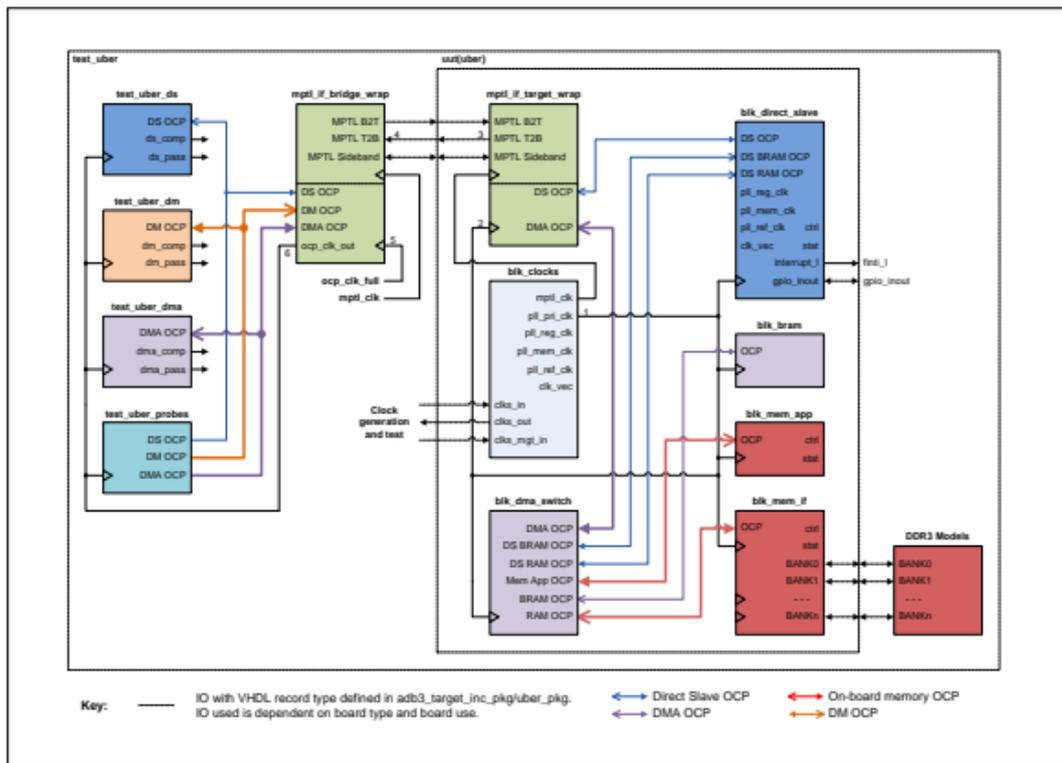

Figure 16: Uber Design Testbench And Top Level Block Diagram
The testbench for the **Uber** example FPGA design is implemented by `hdl/vhdl/examples/uber/common/test_uber.vhd`. Figure Figure 16 shows the testbench, with the top level of **uber** embedded in it.
- In OCP-only simulation (**TARGET_USE = SIM_OCP**), the UUT's main OCP clock (**pll_pri_clk** in this case) is routed out of the UUT via the `mptl_if_target_wrap` instance and into the testbench's instance of `mptl_if_bridge_wrap`. The `mptl_if_bridge_wrap` instance outputs this signal as **ocp_clk**. This route is shown in Figure 16 as the route consisting of points 1, 2, 3, 4 and 6.